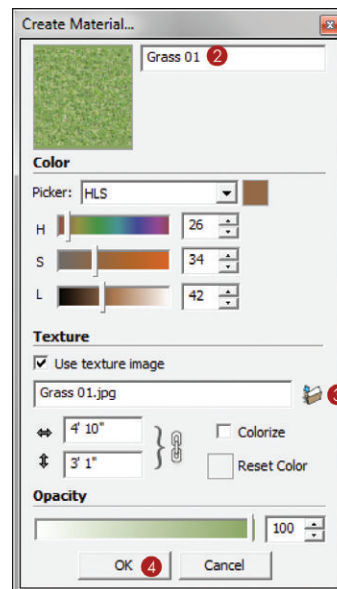

Figure 7.4 Use the **Create Material** dialog to modify the properties of a new material.
1. In the Materials browser, click the **Create Material** button to add a new material (see Figure 7.4). When you create a new material, the **Create Material** dialog opens and creates a copy of the active material.